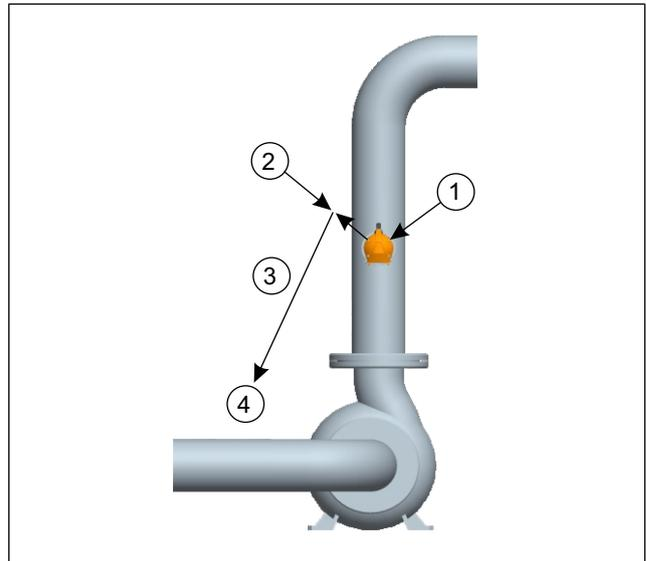

Fig. 13. Water connection: 1. flushing water 0.9 - 9 bar, 2. water overflow assembly, 3. 3/8" plastic tube outlet, 4. 0.5 - 1 l/m to channel.
4. See Fig. 13. Connect the incoming water to the right hand side. An arrow on the inlet pipe indicates the flow direction. Install the shut-off valve to the incoming water line.